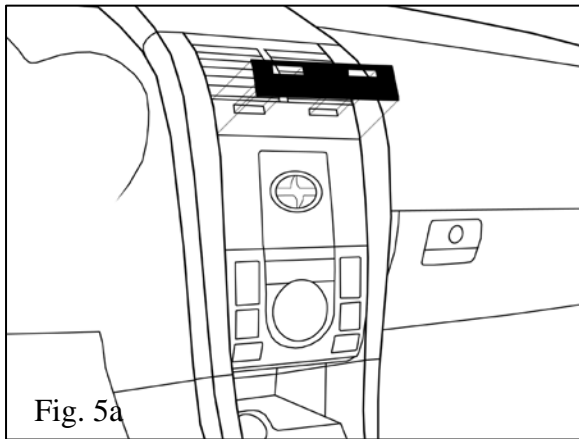

Fig. 5a
- (1) Align cutouts around vent control wheels.
- (2) Align part uniformly to edge of factory component. Edge of appliqué should be flush to edge of factory component, $\pm 1.0\text{mm}$. (Fig. 5a)
- (3) Gently touch part into position.